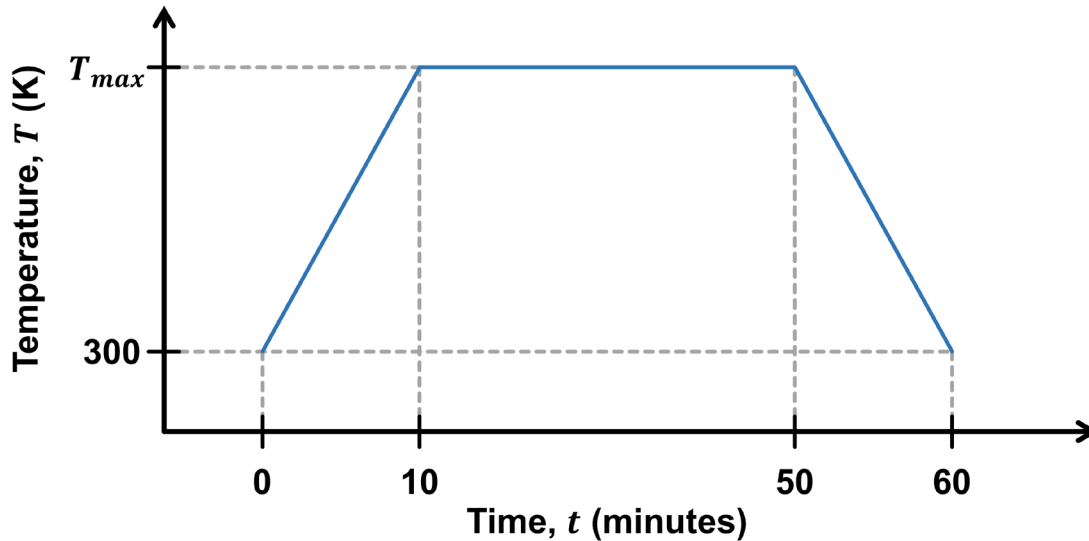

Figure PS2.2
2. Consider a silicon wafer covered with a thick film of phosphosilicate glass (PSG) that has a phosphorous concentration much greater than the solid solubility limit of phosphorous in silicon. The wafer has an initial background dopant concentration of $N_A = 2 \times 10^{15} \text{ cm}^{-3}$. The wafer is to be placed in an annealing furnace and heated for one hour according to the temperature function given in Fig. PS2.2.